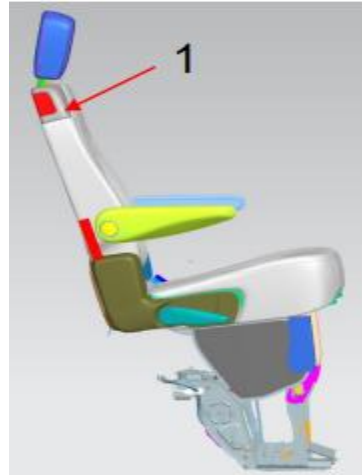

Fig 1.
2. Check for handle looseness. Does the handle rotate freely and spring back into position? Remove the screw behind the handle and remove the Easy Entry handle bezel (Fig1). Go to Step 3. If the handle is stuck or has high effort to rotate, go to step 6.